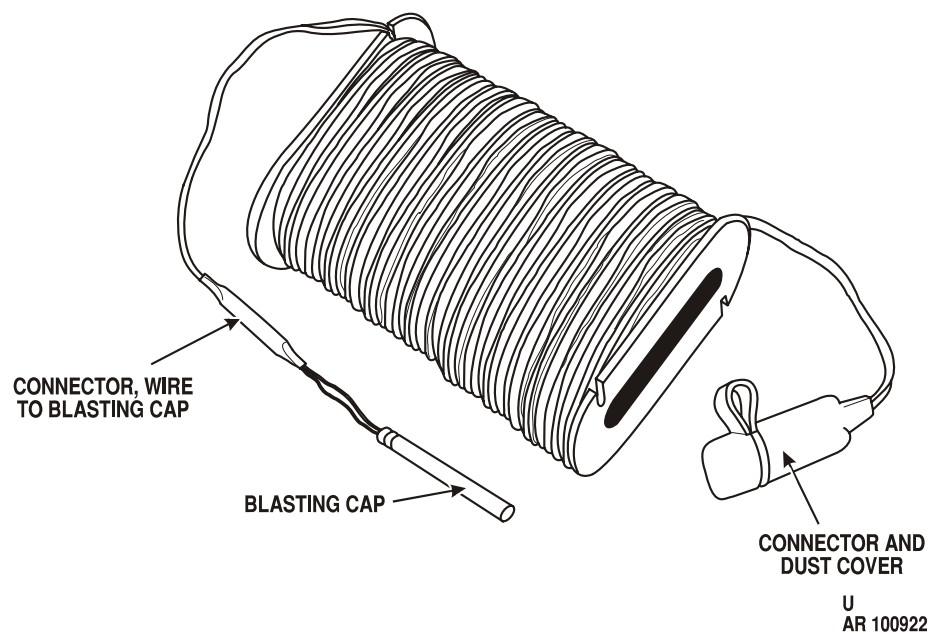

Figure 2-11. Electric blasting cap assembly M4, with blasting cap M6.
- (2) Remove tape and unroll paper form, or plastic spool, from electric blasting cap assembly (fig. 2-11). Retain plastic spool or paper form and tape for possible future use. Hold blasting cap while unwinding approximately 3 meters of firing wire.